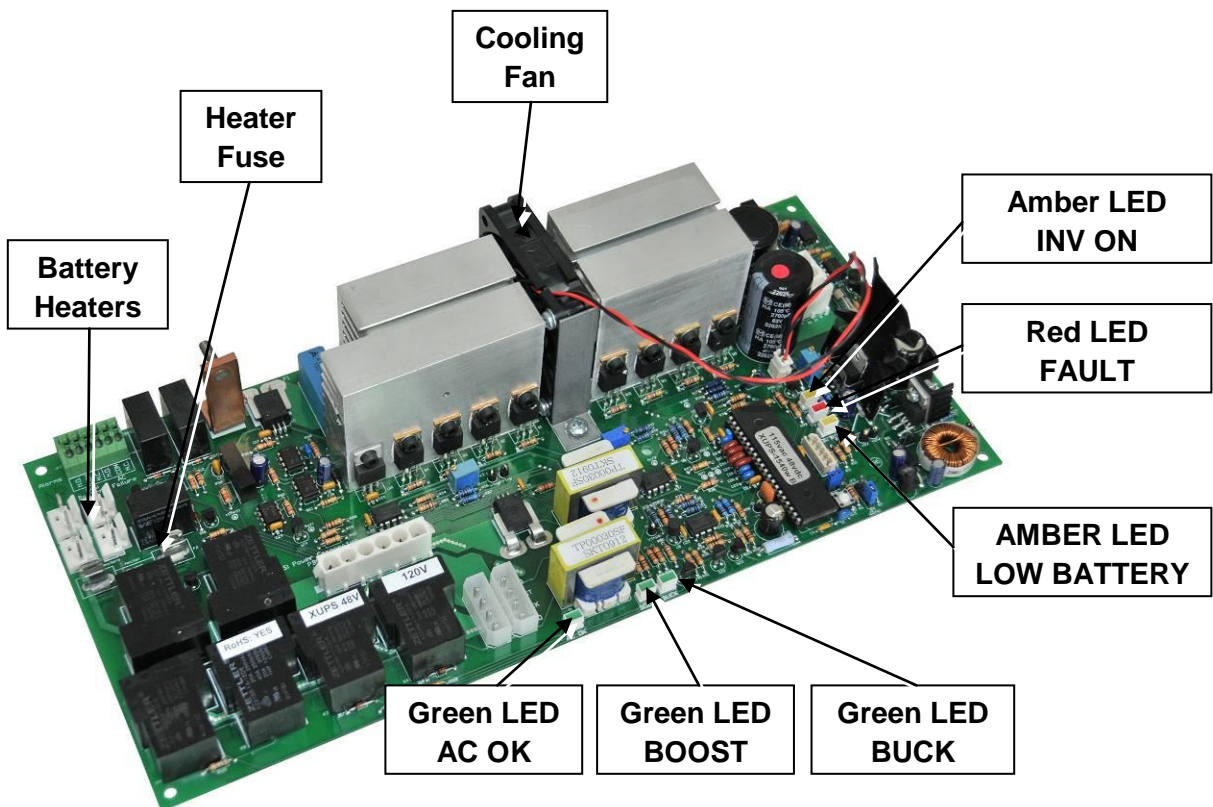

Figure 6: Main Inverter, Charging & Voltage Regulation Circuit Board
The control board of the XUPS uses a rugged design with a microprocessor-controlled 20 kHz sine wave inverter (see Figure 6). The circuit boards are conformally coated for use in severe outdoor environments. The control board includes integral LED indicators for AC OK, BOOST and BUCK as well as INV ON, FAULT and LOW BAT to provide a real-time status of the XUPS' operation.
- 5.24 Verify that all LEDs on the Control Board Assembly (see Figure 6) illuminate one by one. **THIS MAY TAKE APPROXIMATELY FIVE (5) SECONDS.**
- 6.12 Verify that the XUPS operates in **Inverter Mode** with **INV ON, Amber LED ON** (see Figure 6).